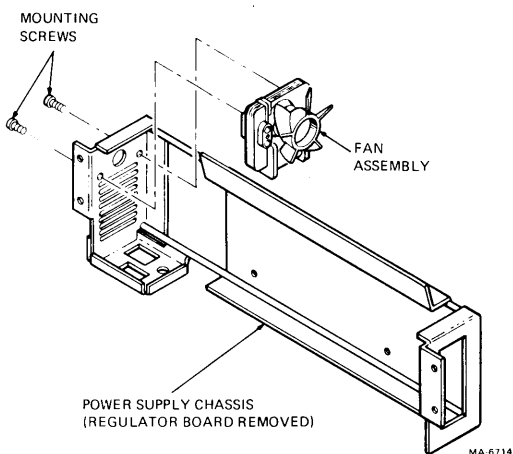

Figure 5-6 Power Supply Fan Assembly Removal
5. Remove the two (2) screws securing the fan assembly to the power supply chassis (Figure 5-6). The screws may be removed with either a nutdriver or a blade-type screwdriver.